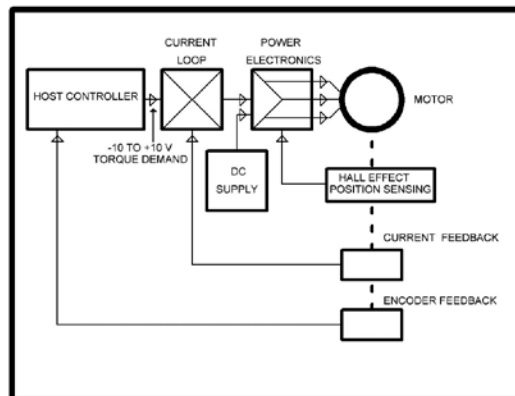

Figure 6: Torque control via host controller.
**See Figure 6:** A third possibility is to use a host controller (often a PC) fitted with a motion controller. In this case the complexity is moved to the host controller which receives the motor encoder signals and controls the drive by means of a -10 V to +10 V torque demand signal. In this case the speed control loop and position control loop reside in the host controller. This approach has much to recommend it on large systems as the host controller is aware of the motor torque (current) and is able to detect the onset of overload and take appropriate action such as slowing down.